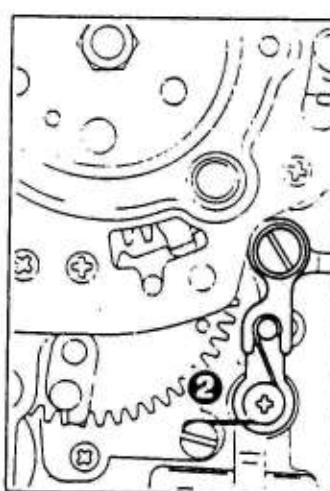

Fig.7
A current of about 7mA will flow if connections to the battery terminals are wrong. (See Fig. 7.)
- ② If it sounds 4 seconds after releasing, the release magnet does not function. Accordingly, check function of the release magnet mechanism. (See Fig. 7.)